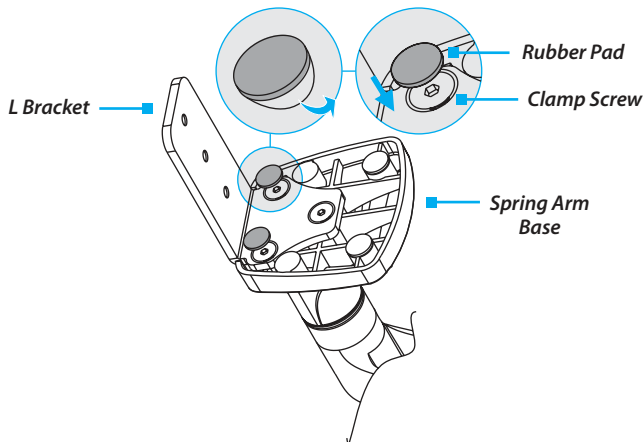

Figure 2
4. Remove the backing from the two **Rubber Pads** (7) and affix the **Rubber Pads** to the tops of two of the **Clamp Screws** on the underside of the **L Bracket** and **Spring Arm**. (Figure 2)